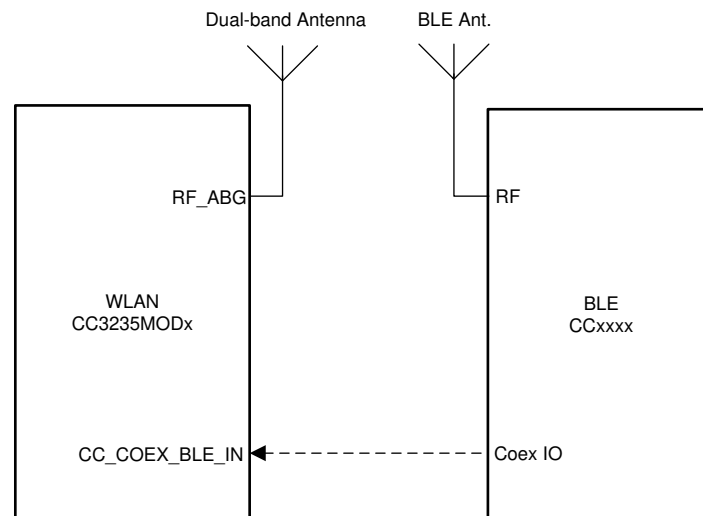

Figure 9-1. Dual-Antenna Coexistence Mode Block Diagram
- Dual-band Wi-Fi (see Figure 9-1)
Figure 9-1 shows the dual antenna implementation of a complete Bluetooth® low energy and WLAN coexistence network with the WLAN operating on either a 2.4 or a 5GHz band. Note in this implementation a Coex switch is not required and only a single GPIO from the BLE device to the CC3235MOD device is needed. In addition, the CC3235MODx's antenna is external while the CC3235MODAx's antenna is integrated.